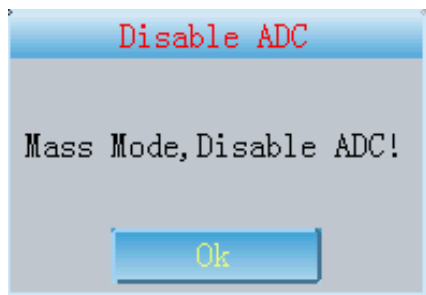

Fig. 13-10-2
- 3 Click **MASS** , the electrocardiograph will enter the main interface. In MASS mode, if you click sample button, the prompt box as Fig.13-10-2 will appear.